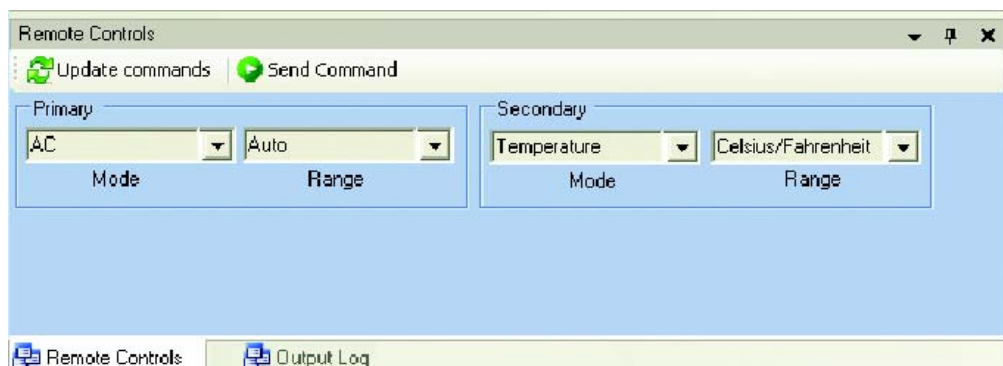

Figure 20 Remote Controls
- 2 Click on **Update Commands**, to update the lists of command available for different rotary switch functions selected. The list of command can be view through the drop-down combo box menu (Figure 20).